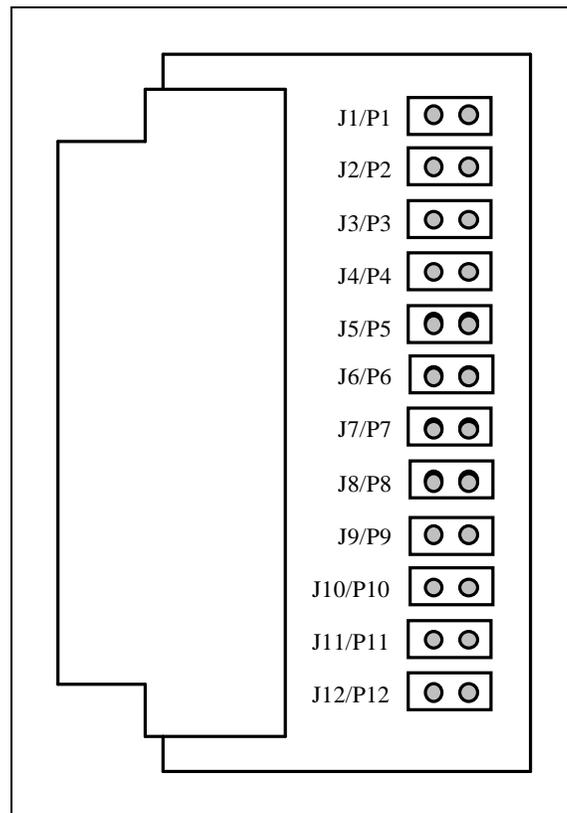

Figure 11 - Channel Termination Board
2. Refer to Figure 11 and remove all jumpers corresponding to active channels (CH. 1 - J1/P1, CH. 2 - J2/P2,...CH. 12 - J12/P12). Verify that jumpers are installed on all unused channels.
- Refer to Figure 11 and remove all jumpers corresponding to active channels (CH. 1 - J1/P1, CH. 2 - J2/P2,...CH. 12 - J12/P12). Verify that jumpers are installed on all unused channels.